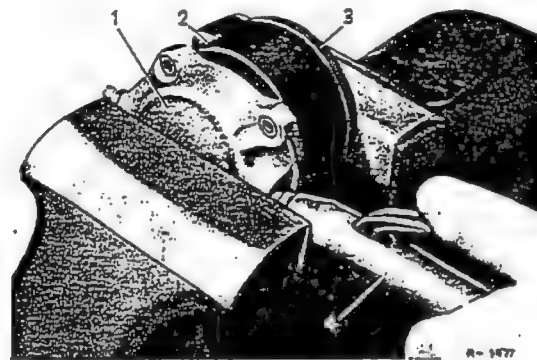

Fig. 42-13/3
- Use an arbor press to press the lining pressure plate (4) off the piston by means of the disassembly ram (1). Remove the dust cap (3) (Fig. 42-13/4).